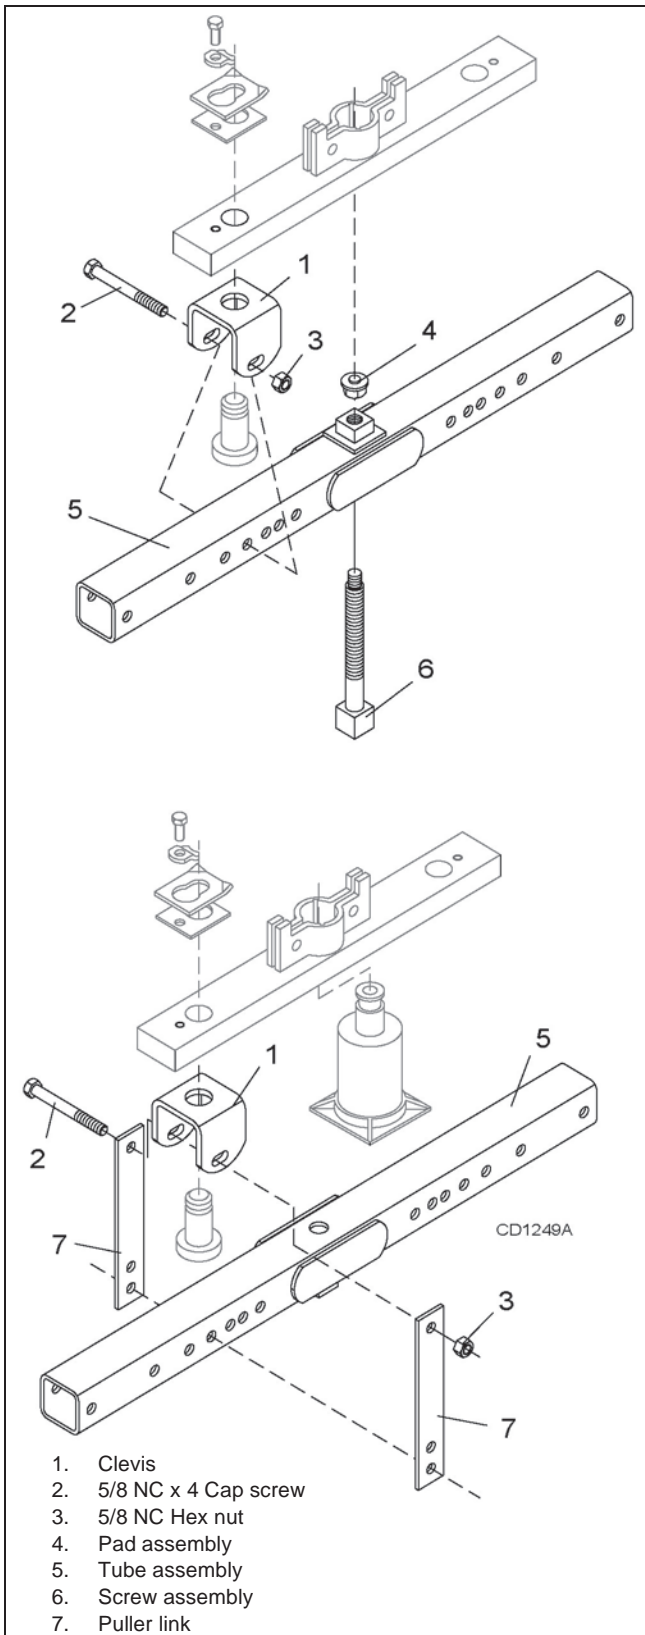

Figure 24. Crossbar Removal
- Remove cotter pin (20) and castle nut (19) from bottom of crossbar.
- Refer to Figure 24. Attach a clevis (1) to each end of crossbar, using blade pins, spacers, keyhole plates, and blade pin clips.
- Position tube assembly (5) with threaded nut toward crossbar for puller screw removal or down for hydraulic jack removal.
- For removal with puller screw, attach tube (5) to each clevis with screws (2) and nuts (3). Place pad (4) in nut and thread puller screw (6) into nut from bottom. Tighten until pad is solid against gearbox shaft. For best results, strike head of puller screw with a hammer while tightening with a wrench.
- For removal with a jack, attach tube to each clevis with puller links (7), screws (2), and nuts (3). Place jack on tube with end of jack pressing against gearbox shaft. Slowly apply force with jack.